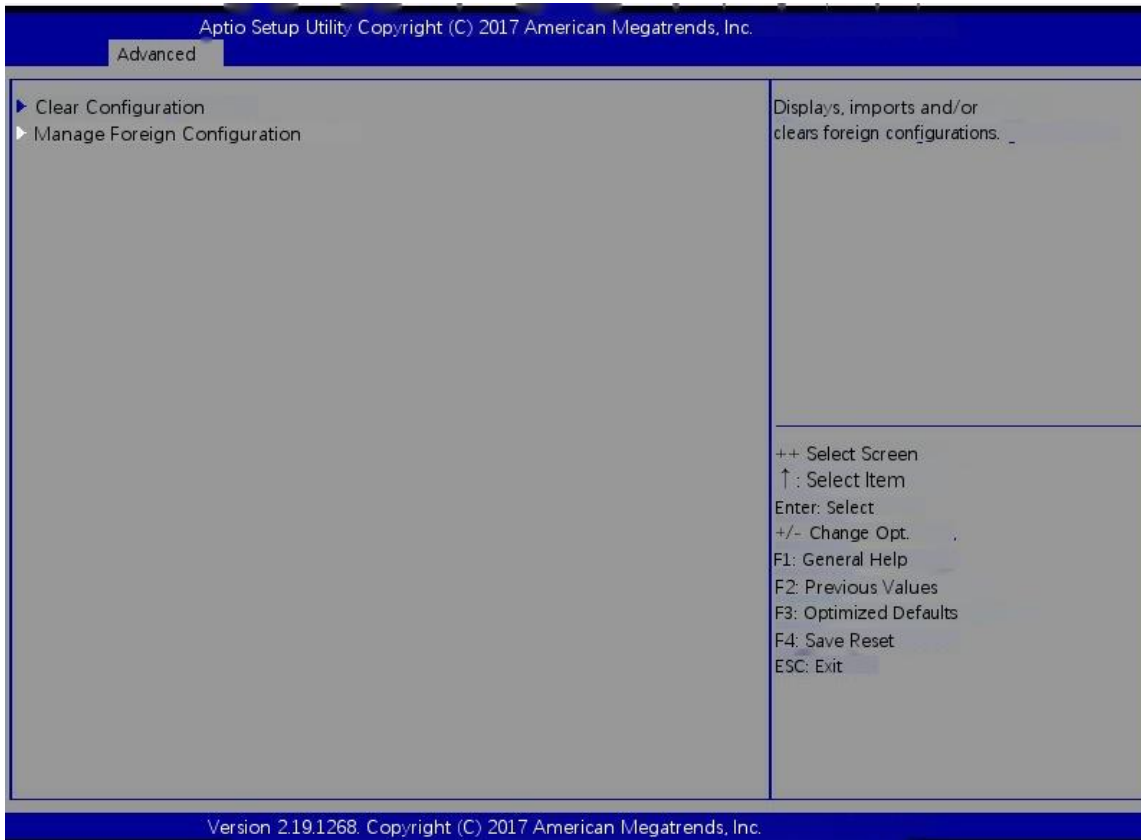

Figure 6-79
- c) Enter the interface shown in figure 6-79, select manage foreign configuration, and press enter.